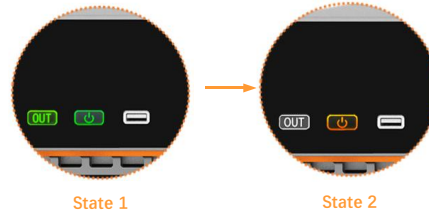

Figure 131 Shutdown Process Diagram
Step 1: Disconnect the output terminal, see Figure 131 State 1.
Step 2: Press and hold the power/reset button until the indicator light changes from green to yellow, see Figure 131 State 2.